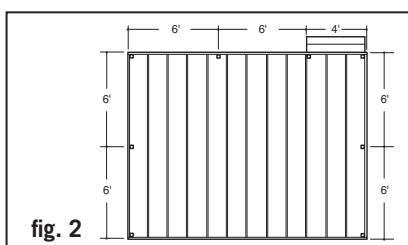

fig. 2
Step 1: Determine the number of railing posts needed for your deck. Post spacing is 6' on center. Example: A 12x16 deck attached to a building with a 4' access opening on one side will require a total of eight posts (fig. 2).